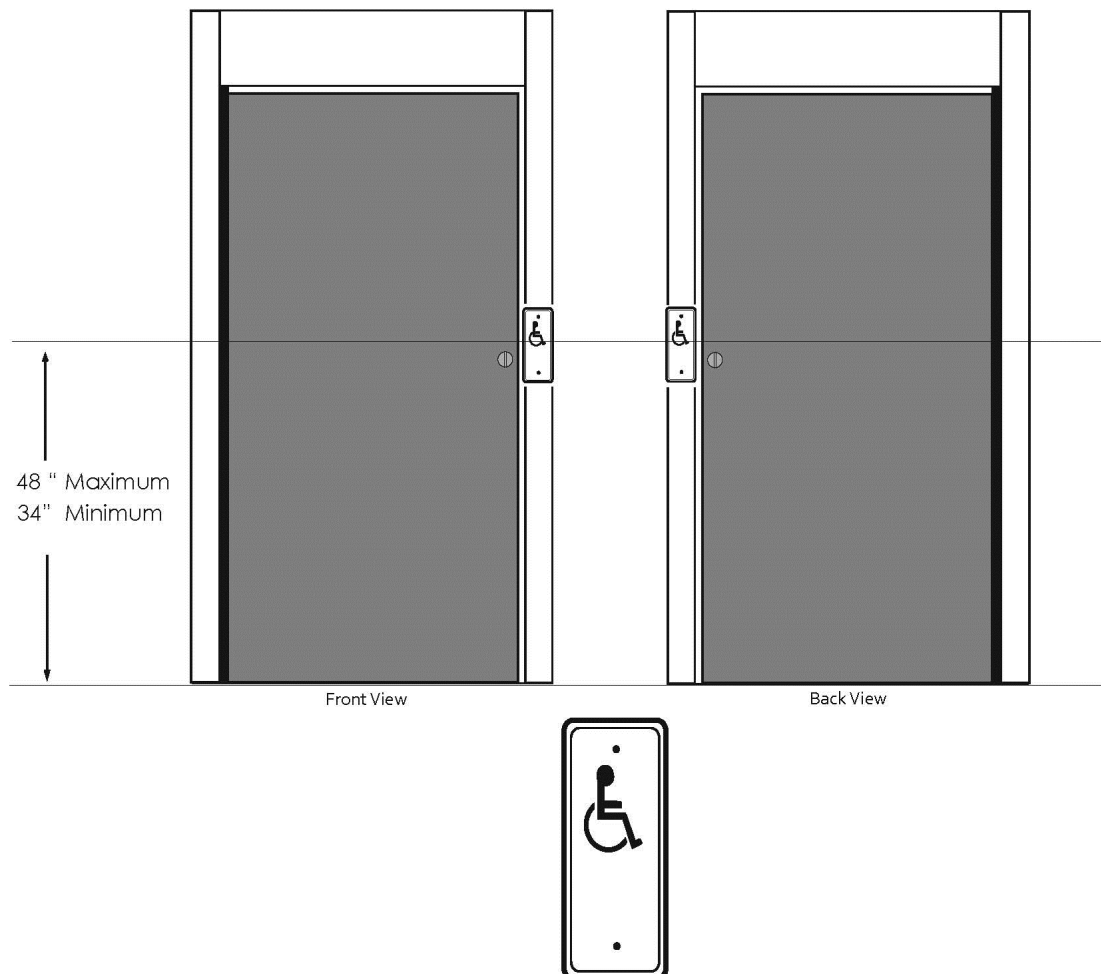

Figure 26
1. Refer to Figure 26, and **INSTALL** the pushbutton switches. **ENSURE** the following:
2. Refer to Figures 26 and 27, and CONNECT the battery pack connector plug to the operator.